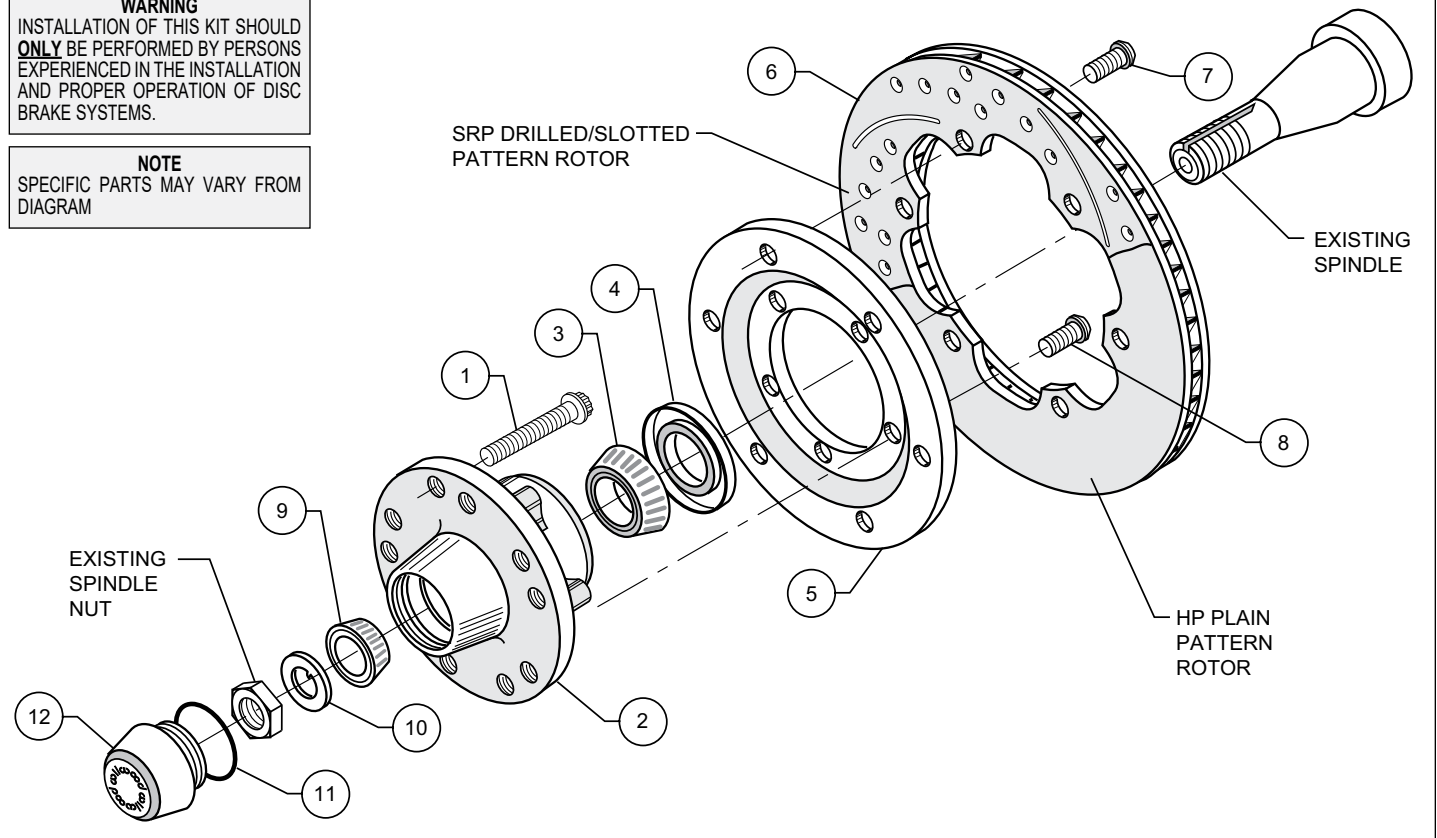

Figure 1. Typical Installation Configuration
NOTE: Numbers in parenthesis refer to the parts list and Figure 1 on the preceding page.
- Install wheel studs (1) into the hub (2), torque to 77 ft-lb. **NOTE:** *There are two five lug patterns in the hub (5 x 4.50 and 5 x 4.75).* Make sure of the correct hole pattern for the correct wheel application before installing studs into hub.
- Pack the large inner bearing cone (3) with high temperature disc brake bearing grease (available from your local auto parts store) and install into the backside of the hub (2).
- Install the grease seal (4) by pressing into the backside of the hub (2).
- Orient the rotor (6) and the rotor adapter (5) as shown in Figure 1. Attach the rotor to the adapter using bolts (7). Using an alternating sequence, apply red *Loctite® 271* to the threads, and torque to 25 ft-lb.
- Mount the adapter/rotor assembly (5/6) to the hub (2) using bolts (8) (finger tight), as shown in Figure 1. Using an alternating sequence, remove bolts one at a time, apply red *Loctite® 271* to the threads, and torque to 45 ft-lb.
- Pack the small outer bearing cone (9) with high temperature disc brake bearing grease and install into front of hub (2). Slide the hub/rotor assembly (2 and 6) with outer bearing cone onto the spindle. Secure using spindle washer (10), stock adjusting nut and nut locking device. Adjust bearings per Original Equipment Manufacturer (OEM) specifications.
- Install the dust cap (12) onto the hub (2) with a new o-ring (11). Friction created by the o-ring (reuse existing) on the dust cap keeps it from unscrewing. The O.D. of the spindle washer may be larger than the I.D. of the dust cap not allowing it to seat against the hub face. Some grinding on the washer O.D. may be necessary to clear the I.D. of the dust cap.